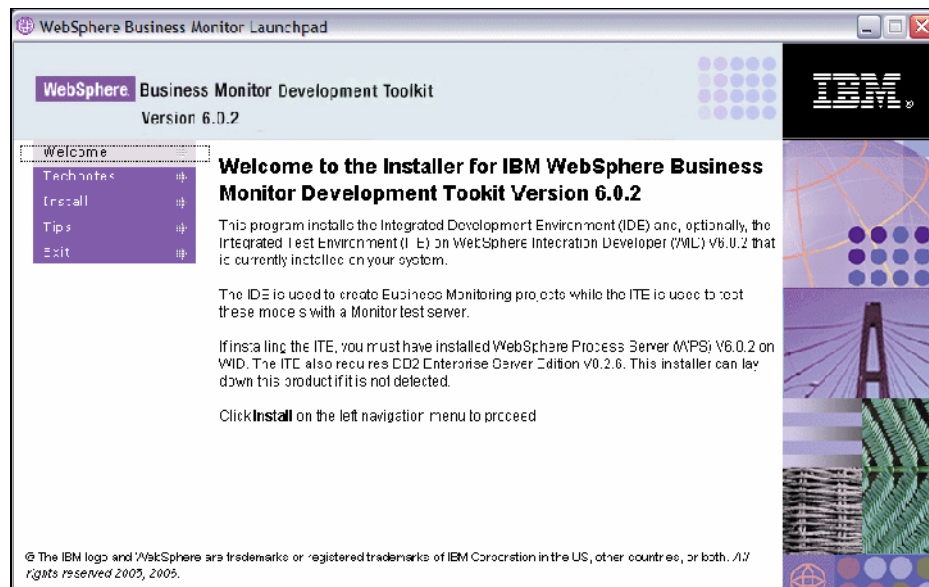

Figure A-10 WebSphere Business Monitor Development Toolkit: Launchpad
- ▶ In the Launchpad, click *Install* (Figure A-10)